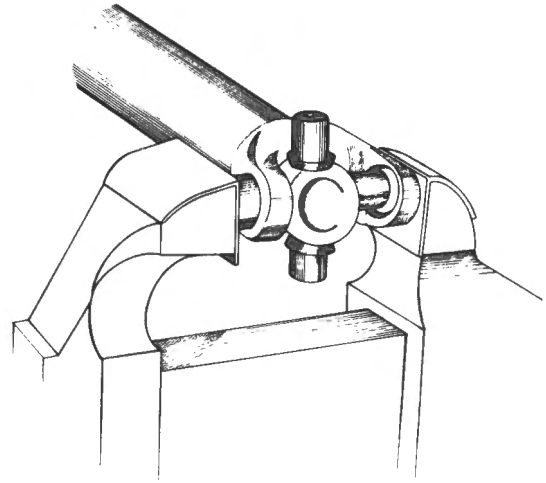

Fig. N-5
- 3 Enter one bearing into the shaft yoke and using the vice, press the bearing into the yoke, at the same time enter the journal of the cross into the bearing. Fig. N-5. The bearing is pressed into the yoke sufficiently to fit the circlip.